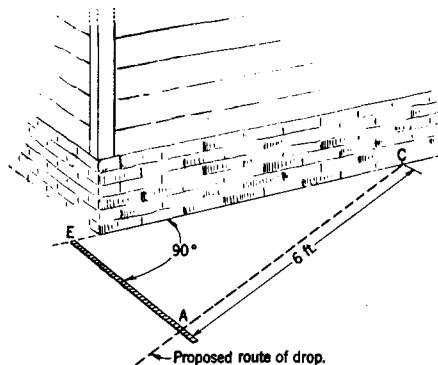

Fig. 1 — Laying Out Angle
**2.03** Angle of  $30^\circ$  can be approximately determined by sight if it is remembered that  $30^\circ$  is  $1/3$  of a right angle ( $90^\circ$ ). The following method may be used to check this angle (see Fig. 1):